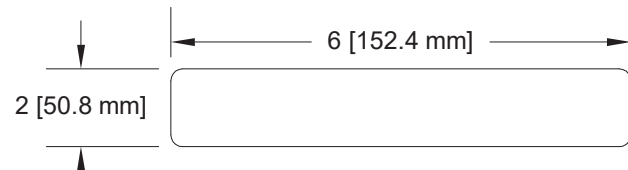

FIGURE 1: CANOPY FEELER GAUGE
Step 1: Fabricate the canopy feeler gauge from .040 aluminum as shown in Figure 1.